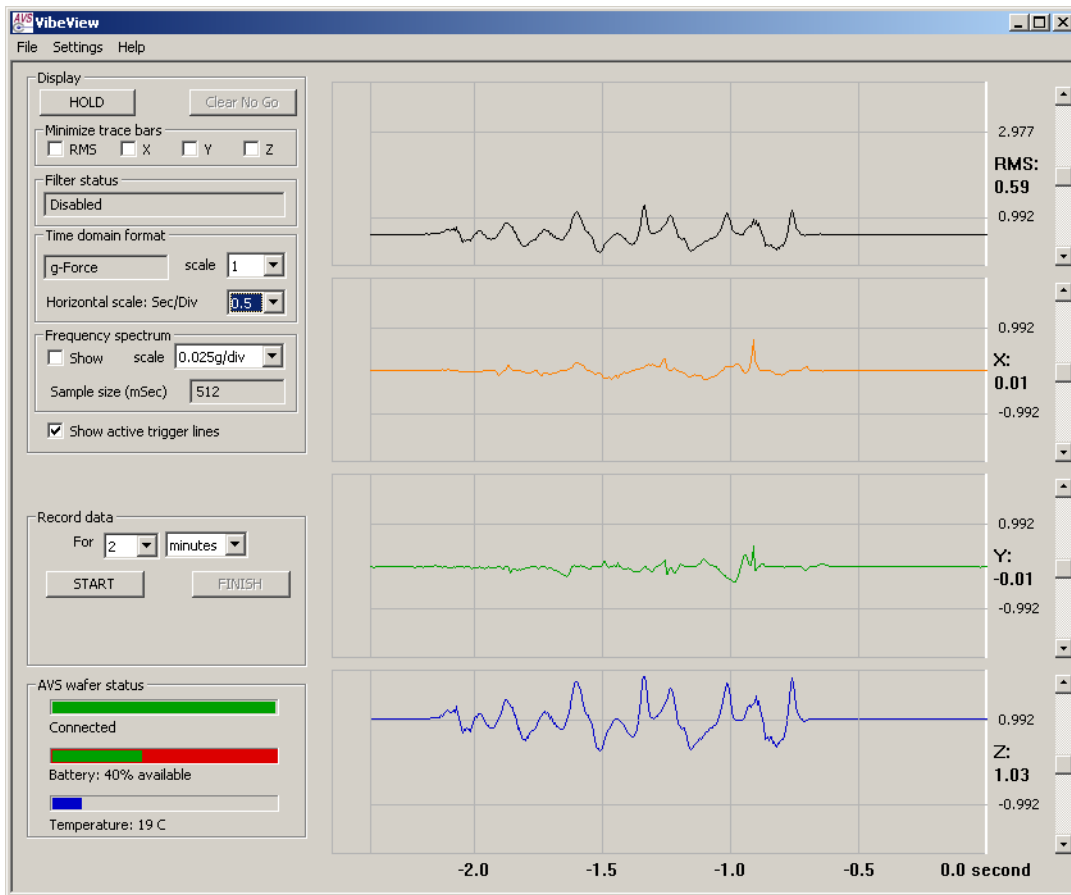

Figure 3.2: Reading the VibeView Display
3. Start the VibeView application. The VibeView window appears, as shown in Figure 3.2 on page 3.5.